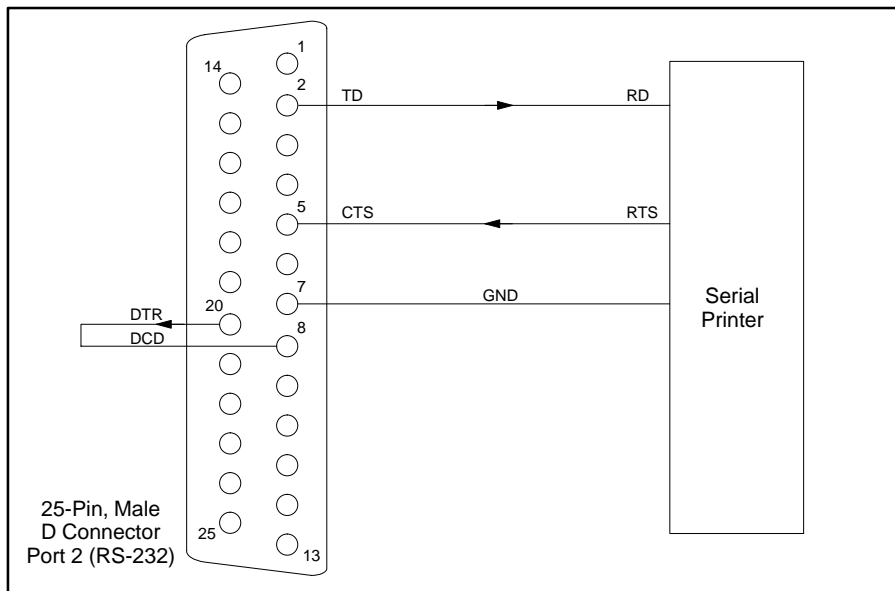

Figure 6-26 575 Ready/Busy Printer Handshaking
- READY/BUSY printer handshaking; see Figure 6-26.